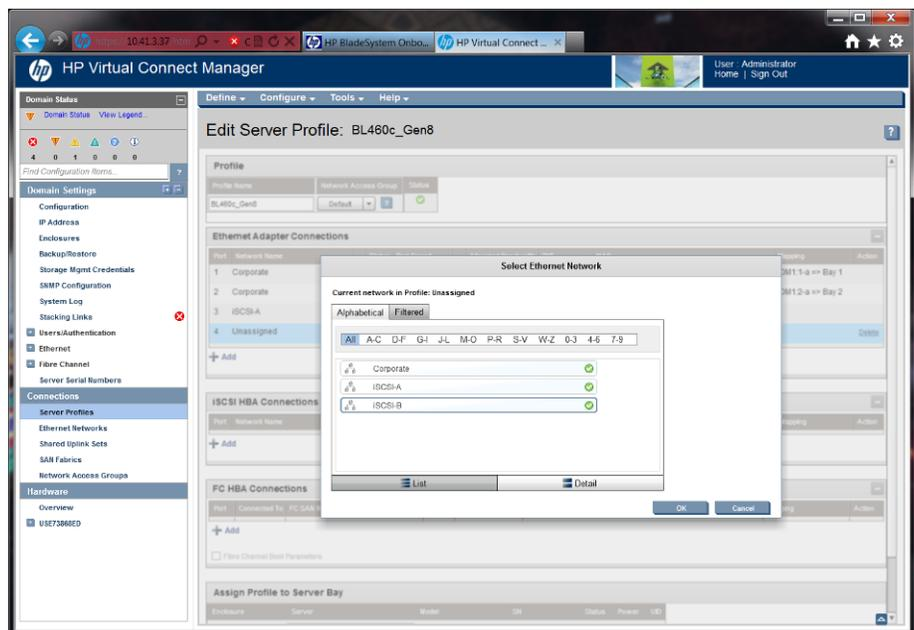

Figure 24: Assigning a network.
- Select the appropriate iSCSI network, and click OK. In our testing, we assigned the first FlexNIC to iSCSI-A. (See Figure 24.)